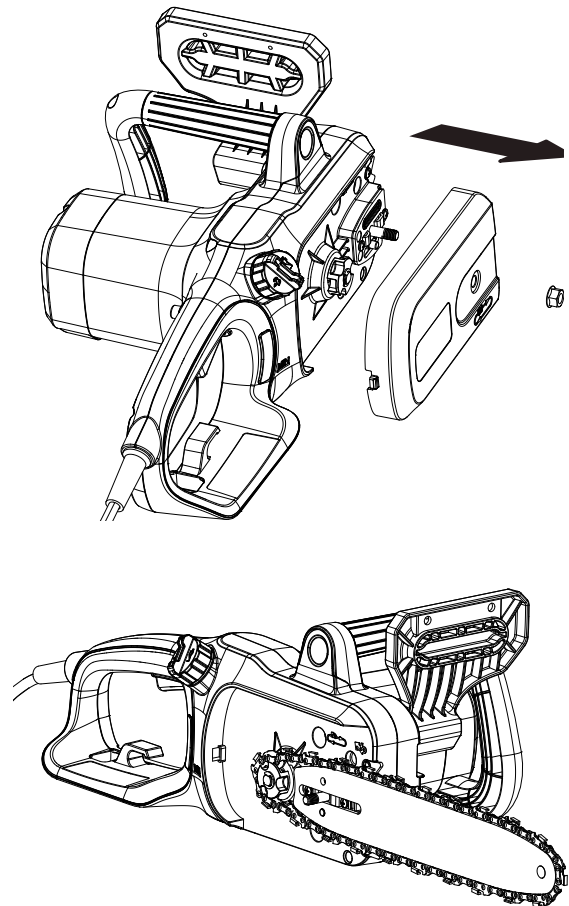

Fig. 5
2. Loosen the retaining nut with the spanner and remove it together with the cover (Fig. 5).
4. Align the guide bar and saw chain assembly with the drive sprocket and bolt. Lay the saw chain around the drive sprocket and then lower the guide bar to install it to the bolt (Fig. 5).